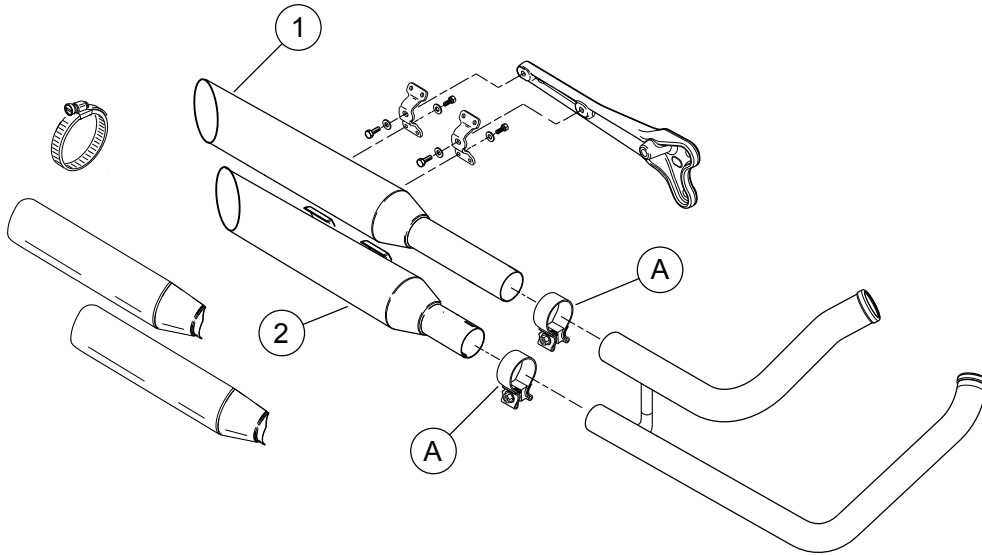

Figure 1. Service Parts: Shotgun Style Accessory Slip-On Muffler Kits
See Figure 1 and Table 1.
7. See Figure 1. Install fasteners and tighten **new** muffler clamps to 61–81.3 N·m (45–60 ft-lbs). Tighten screws to 20.3–25.8 N·m (15–19 ft-lbs).